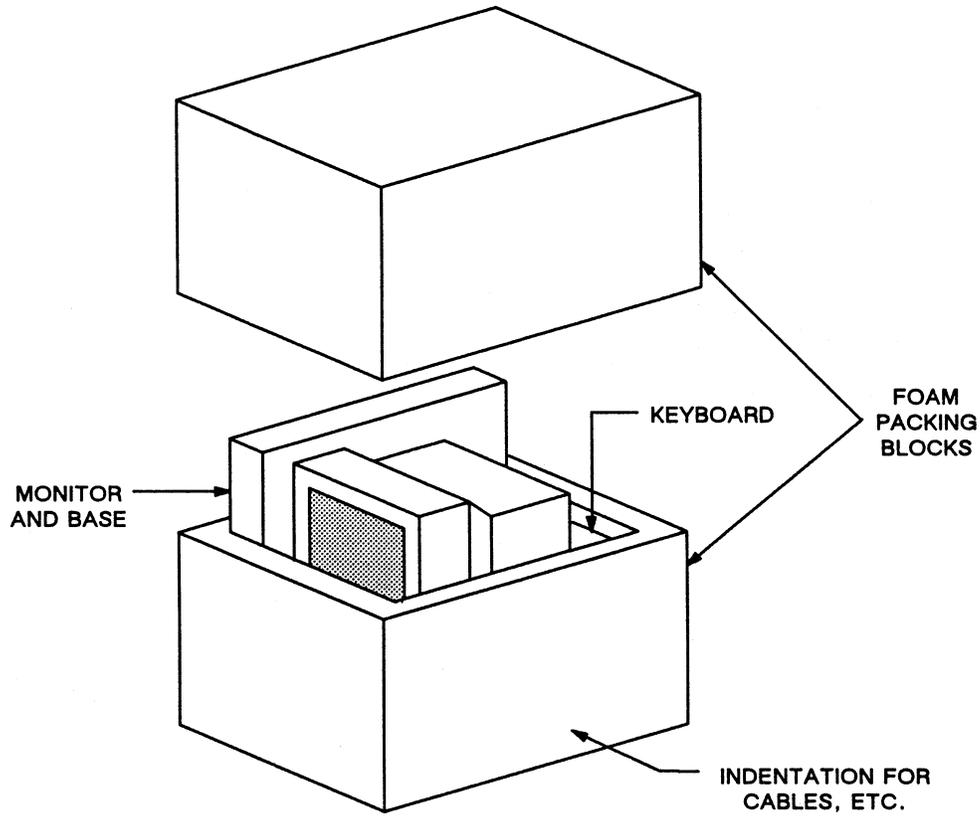

Figure 1-4. Shipping Configuration for Model 30 CADDStations
2. Use the knife to cut the tape around the shipping carton. See Figure 1-4.
Figure 1-4 shows the shipping configuration for Model 30 CADDStations.